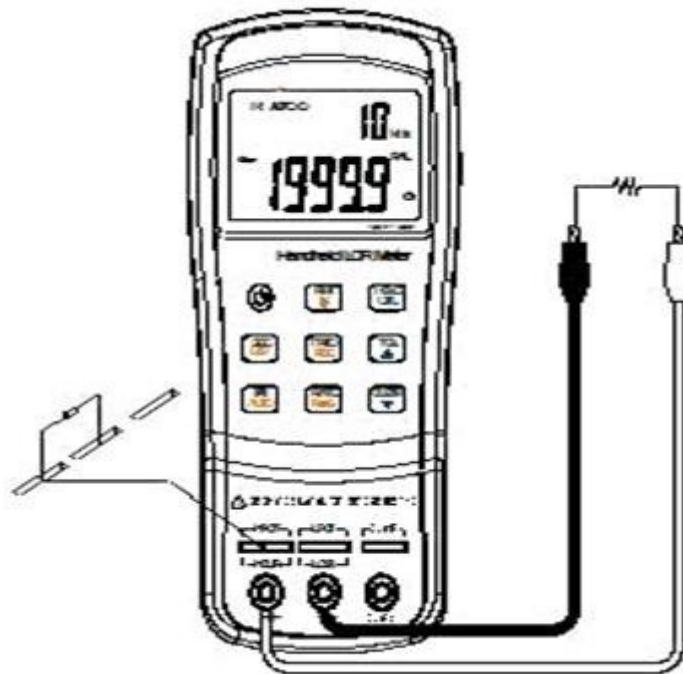

Figure 15-Resistance Measurement
3. Insert a resistor into test slots or connect a tested resistor through a proper test accessory (e.g., banana plug-crocodile clip test leads, test fixture or SMD test tweezers). See figures 15 below.